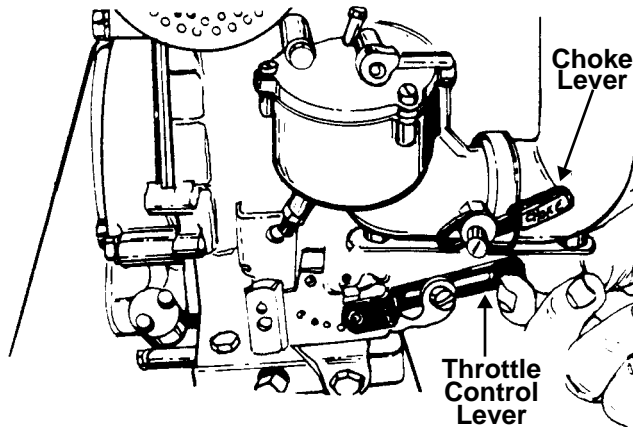

Figure 15
3. Push the CHOKE lever down all the way. Set the throttle in the FAST position. See Figure 15.